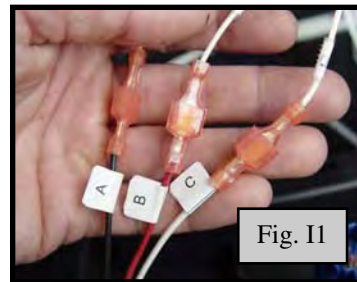

Fig. I1
1. Connect switch leads to harness. (Fig. I1)